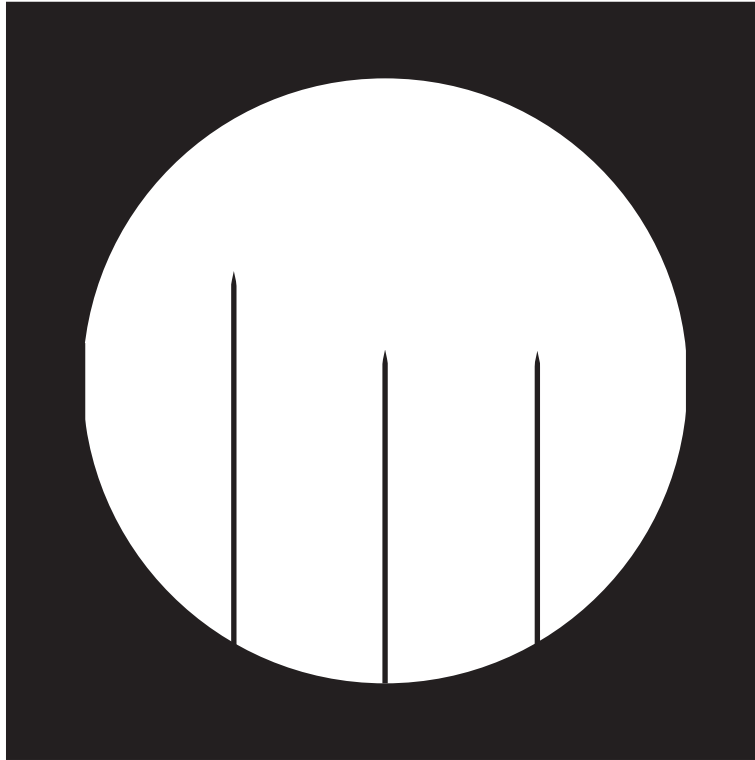

Fig. 2.2
Fig. 2.2 shows a photomicrograph of a stage micrometer viewed through a microscope.
- find the area of the field of view, using Fig. 2.2